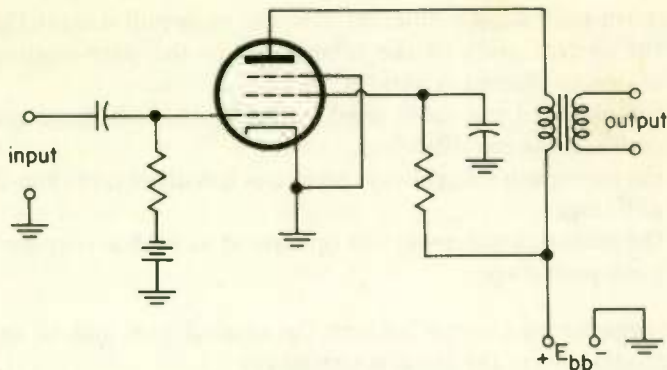

Fig. E.10
- (1) current which can safely flow from the cathode of a tube to the plate of the tube.
- (2) current which can safely pass from the cathode of a tube to all the other tube elements.
- (3) current which can safely pass from the cathode of a tube to the screen grid of the tube.
- (4) peak current which can safely pass from a cathode of a tube to all the other tube electrodes.
96. Identify the circuit in Fig. E. 10.